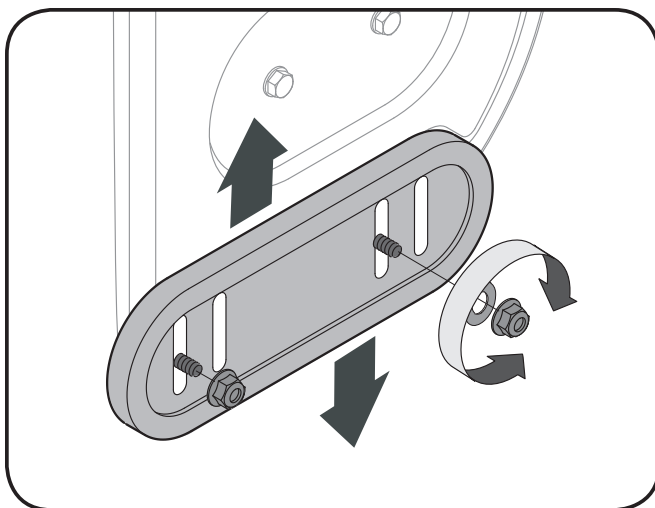
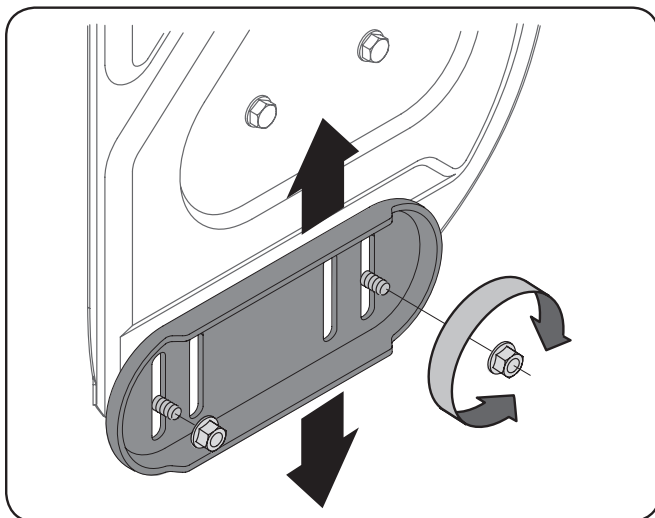

Figure 3-12
Figure 3-13
1. Loosen the four hex nuts (two on each side) and carriage bolts. Move skid shoes to desired position. See Figure 3-12 and Figure 3-13.